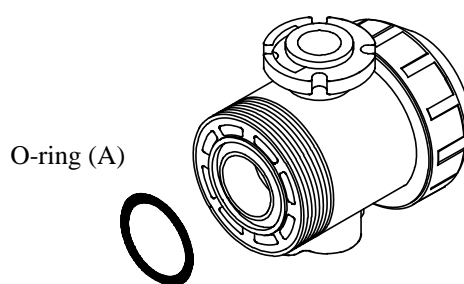

Figure 5.4-1
- 5) Confirm that the O-ring (A) is correctly installed on the body (**Figure 5.4-1**).
- 6) Bring the end connector into contact with the body so that the O-ring (A) does not come off.